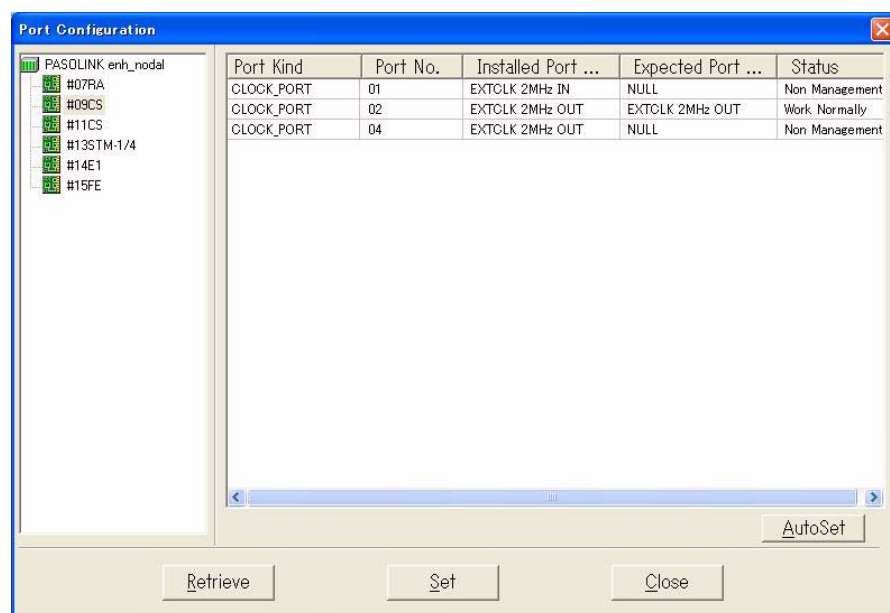

Fig. 4-4-28 Port Configuration Dialog Box
- 2 From the main menu on the ADM Management Tool, select **Port Configuration** from the **Configuration** menu. The **Port Configuration** dialog box shown in *Fig. 4-4-28* appears: